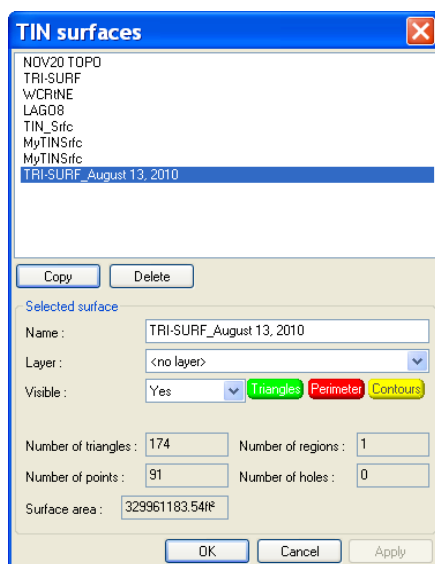

Figure 5-11. Copy and Name TIN Surface
1. On the **TIN surfaces** dialog box, select the TIN surface to copy and click **Copy** (Figure 5-11).
2. Type a unique name for the new TIN surface and press **Enter** (Figure 5-11).